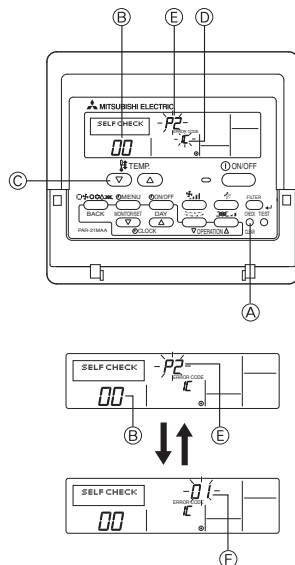

Fig. 7-2
7.3. Self-check (Fig. 7-2)
- ① Turn on the power.
- ② Press the [CHECK] button twice.
- ③ Set refrigerant address with [TEMP] button if system control is used.
- ④ Press the [ON/OFF] button to stop the self-check.